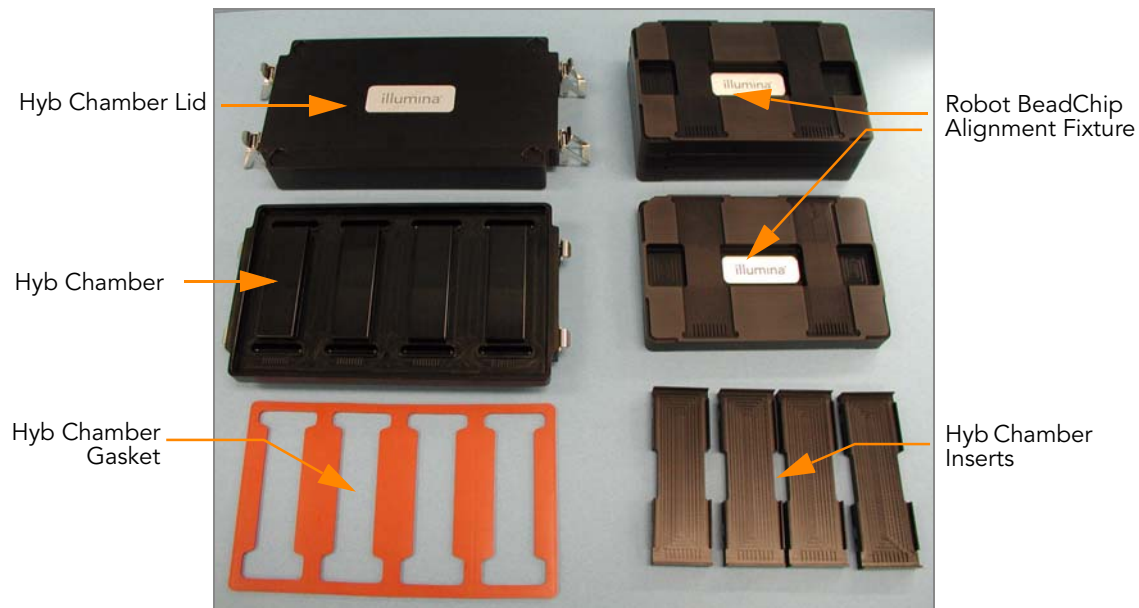

Figure 125 BeadChip Hyb Cartridge Components
1. For every 8 BeadChips, place the following items on the bench top (Figure 125):
- BeadChip Hyb Chambers (2)
- Hyb Chamber Gaskets (2)
- Robot BeadChip Alignment Fixtures (4)
- BeadChip Hyb Chamber Inserts (8)
- Robot Tip Alignment Guides (4)